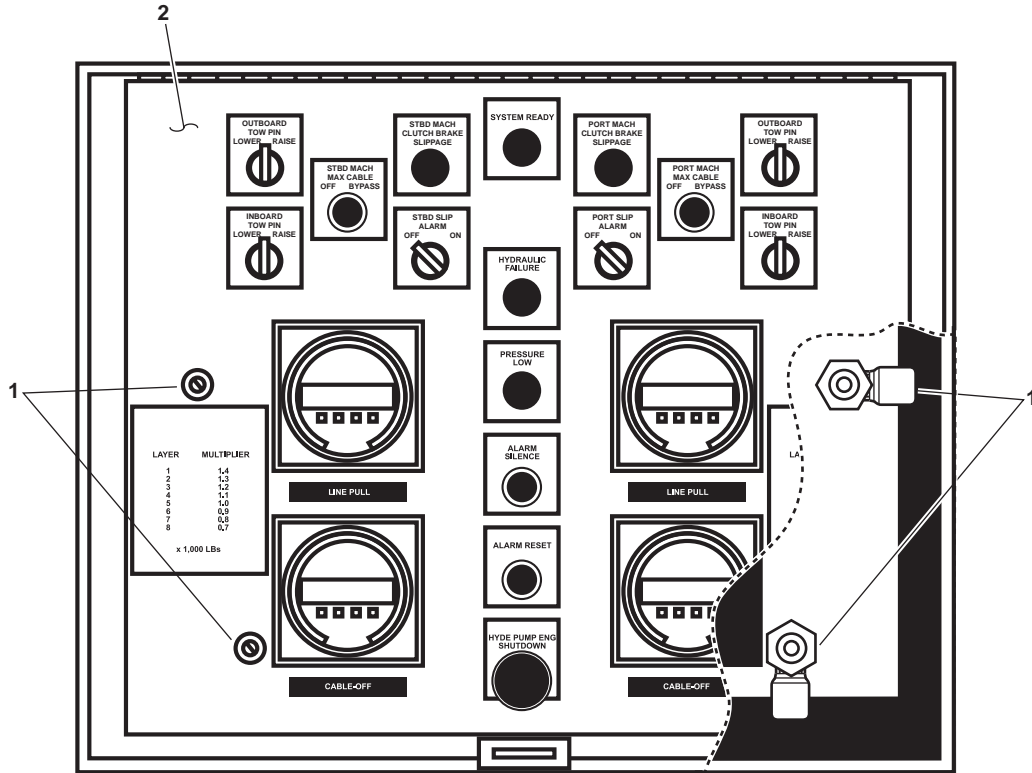

Figure 8. Control Panel Top Latches
1. Rotate to release the four retaining latches (figure 8, item 1) that secure the control panel cover (figure 8, item 2).
2. Open the control panel cover (figure 8, item 2).
3. Close the control panel cover (figure 8, item 2), and secure it with the four retaining latches (figure 8, item 1).
3. Close the control panel cover (figure 8, item 2) and secure it with the four retaining latches (figure 8, item 1).
4. Close the control panel cover (figure 8, item 2) and secure it with the four retaining latches (figure 8, item 1).